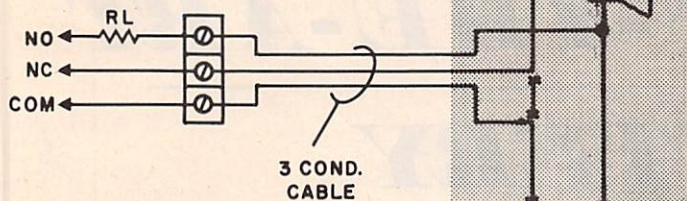

Fig. 4. Connections to a TV set to kill commercials. RL should be equal to speaker in impedance and wattage.
**Uses.** The Light Genie can be used to silence television commercials as shown in Fig. 4. The value of *RL* should be equal to the impedance and wattage of the speaker. If there is enough room